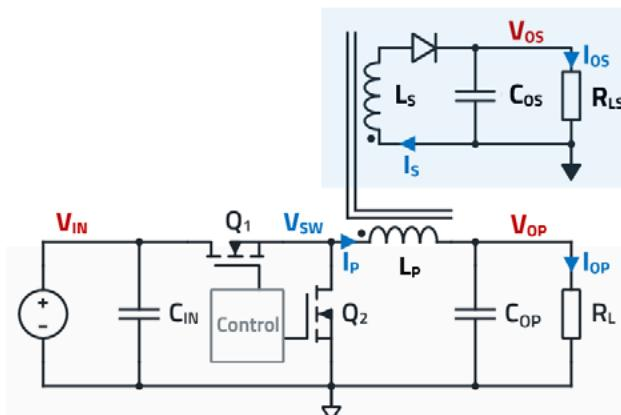

Figure 1: Schematic of a buck converter with additional isolated output.
The power stage of a synchronous buck converter is shown in Figure 1, highlighted in grey. Considering 'ideal' components, the duty-cycle (D) of the PWM signal driving the control transistor (Q₁) sets the converter output voltage (V_{OP}), as follows:
across L_2 during the off-time. By adding a peak rectifier circuit (diode and capacitor) to the second winding (secondary) as highlighted in blue in Figure 1, the diode will be forward-biased only during Δt_{OFF} and V_{OS} will also appear across the secondary load (R_{LS}) (ignoring D_1 voltage drop).